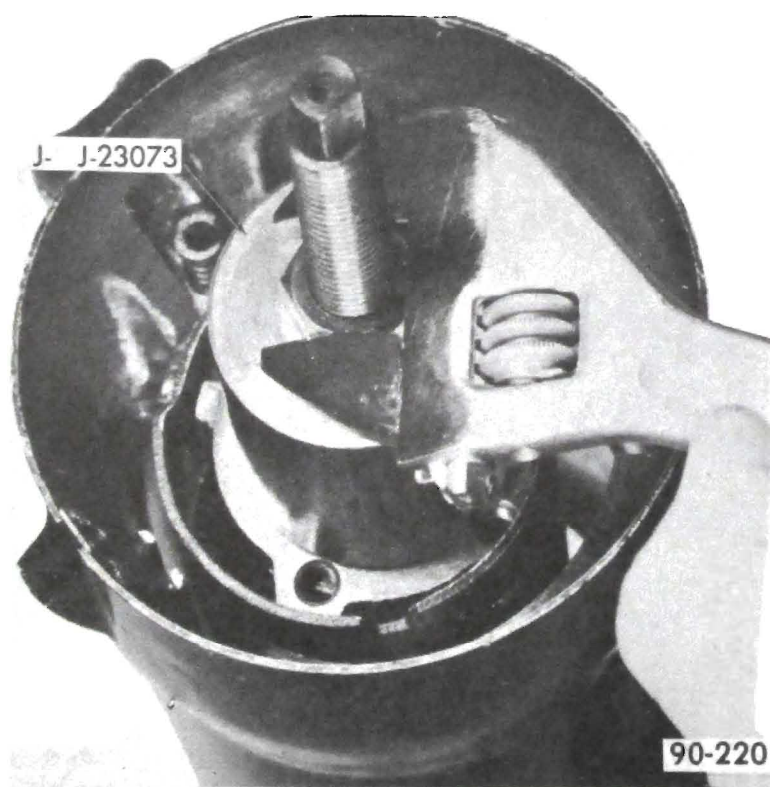

Figure 90-125 - Installing Shift Tube
10. Carefully install shift tube in lower end of mast jacket. Align keyway in tube with key in bowl and using Installer J-23073, pull shift tube into bowl. See Figure 90-125. Do not push or tap on end of shift tube.